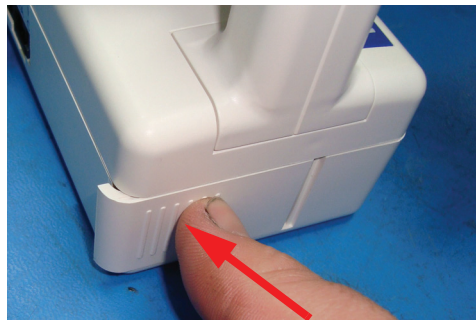

Figure 3-5 Close the Battery Compartment Door
6. Close the door so that it is flush with the bottom of the HANDHELD as shown in Figure 3-5.